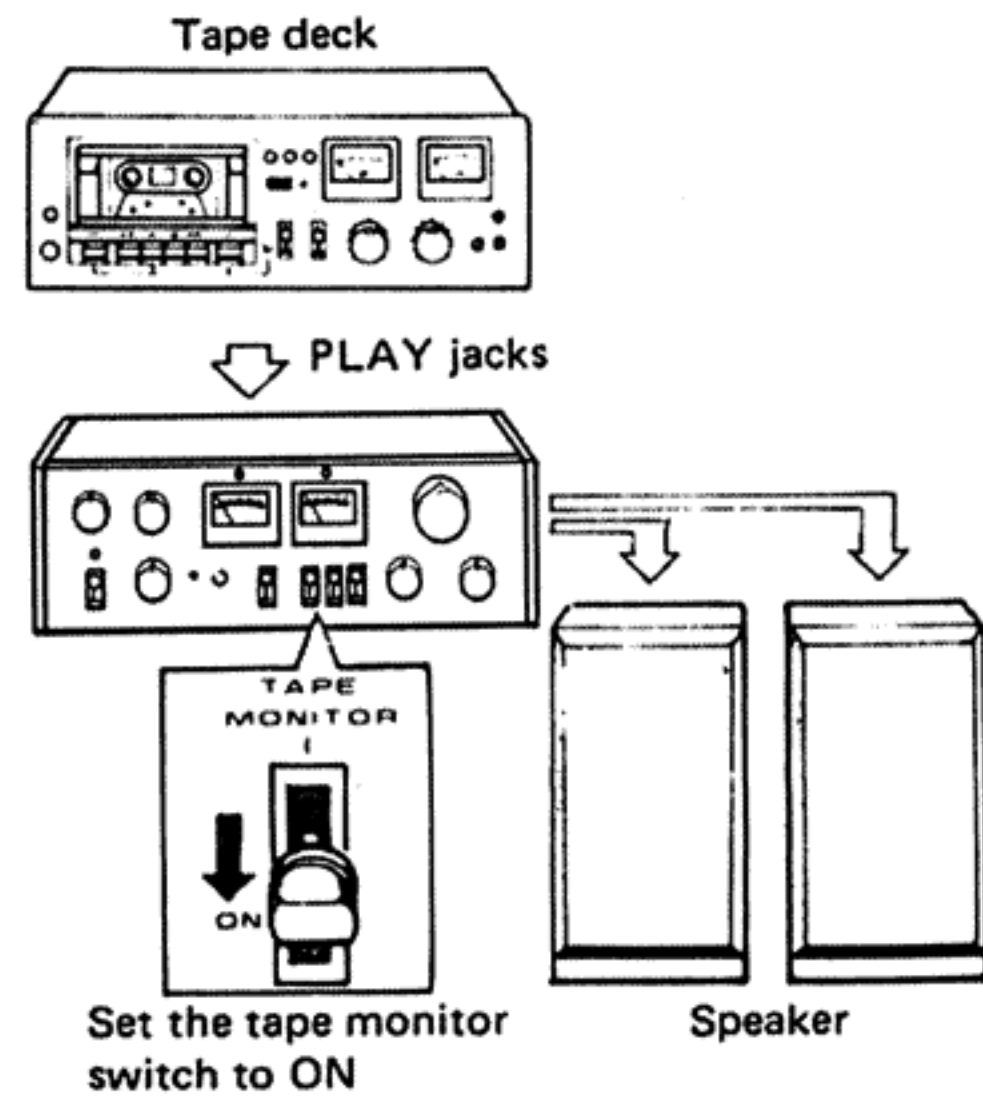

Fig. 7
1. As shown in Fig. 7, set the TAPE MONITOR switch 1 to ON if the tape deck is connected to the TAPE 1 jacks. Set the TAPE MONITOR switch 2 to ON if it is connected to the TAPE 2 jacks.